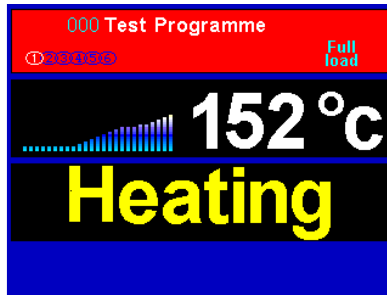

FIG 3
4. Start heating oven by pressing (4) for ½ load bake and (1) for full load, and the following screen will appear. (fig 3)